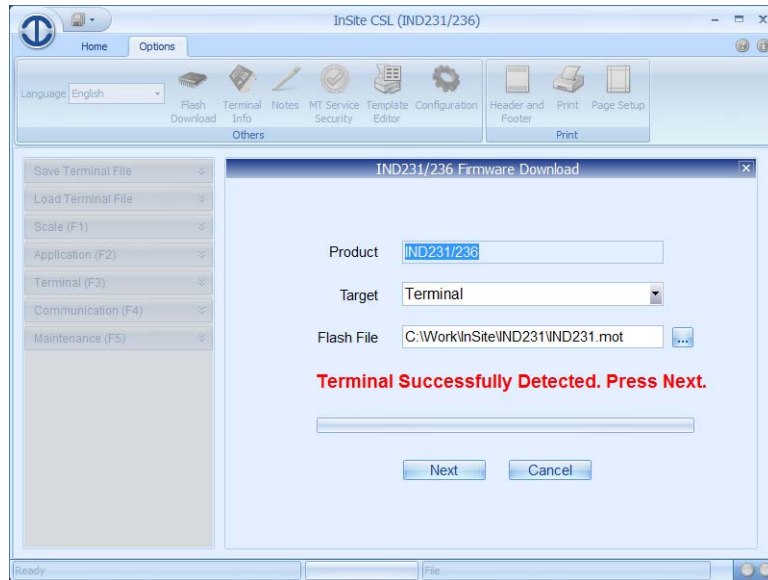

Figure 4-8: InSite CSL Terminal Detection Confirmation Message
7. Click **Start**. InSite CSL will detect the terminal and display a confirmation message (Figure 4-8).